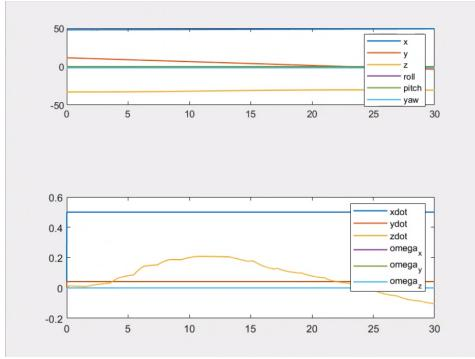

Figure 9: Position and velocity plot with Minimum Altitude threshold of 1m
- **1 m:** The control task is no more active at the starting instant. The UVMS starts to accomplish the *Vehicle Position* task and, when the seafloor presents a hill, the vehicle starts to follow its shape (Figure 9).